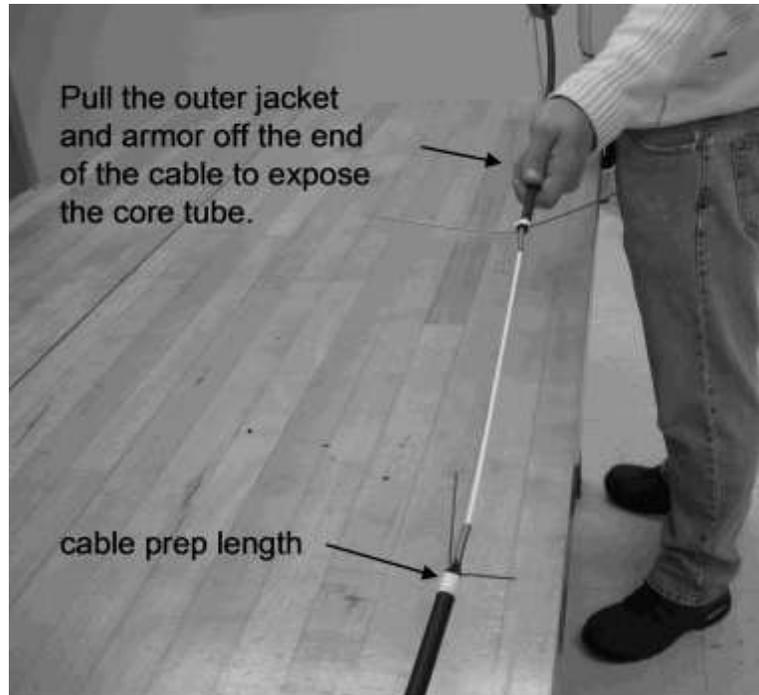

Figure 15 – Remove the outer jacket and armor to expose the core tube.
5.6 After opening the window in the cable jacket, the jacket and armor can be pulled off the cable over the buffer tube. The buffer tube is then stored inside the closure (Figure 15).